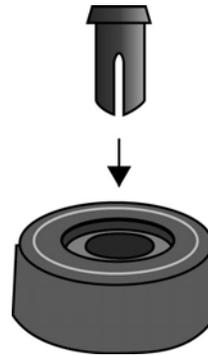

Figure 16. Inset the Rivet Housing into the Bumper Foot
- a. Inset a rivet housing into a bumper foot. Refer to Figure 16.